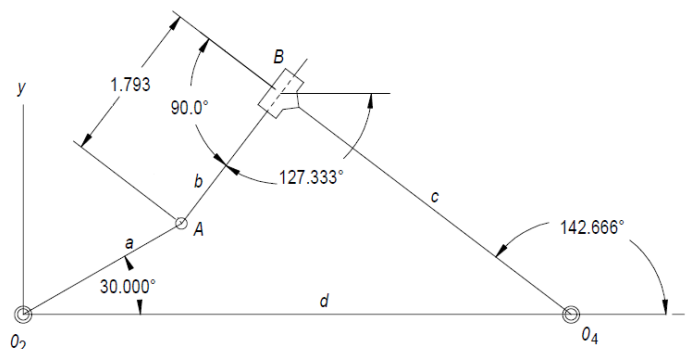

Figure 2 Fourbar slider-crank linkage
2. An inverted four-bar slider-crank linkage is shown in Figure 2. The length of input crank (link *a*) O_2A is 2.0 in and the angular velocities $\omega_a = 10 \text{ rad/s}$ (c.c.w.). The length of coupler (link *c*) O_4B is 4 in. Using relative velocity method cooperates with velocity polygon method to find the velocities of the pin joints *A* and *B* and the velocity of slip at the sliding joint. Draw the linkage to scale. (30%)